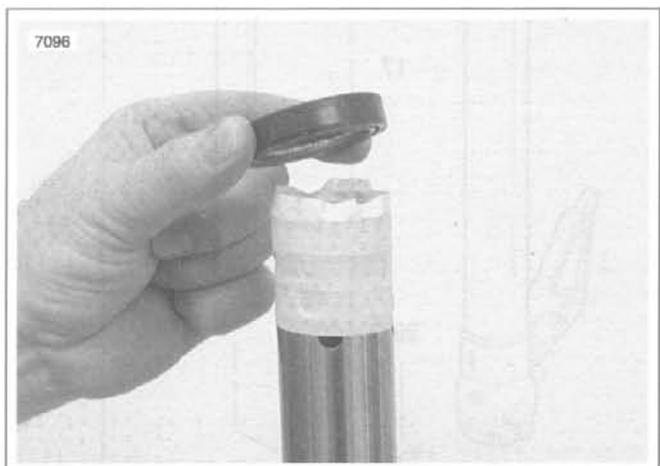

Figure 2-99. Slide Pipe Protection
- See Figure 2-99. Wrap the end of the slide pipe and the slide bushing channel with tape to avoid damaging the oil seal lip when installing.